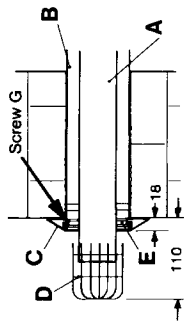

Fig. 17
Separate the two tubes by removing screw G (fig. 17).
Ensure inner and outer terminal tubes are firmly fitted together with screw G (fig. 17). Push the terminal tubes through the wall until the face of the outer tube protrudes 18mm from the face of the wall (fig. 17). The terminal grill (D) will then protrude 110mm from the wall face.
- 5.5.15** Check also that the outer end of the flue projects as indicated in fig. 17.
- 5.5.18** Seal the peripheral gap around the outer tube with cement or mastic and slip the cosmetic flexible plastic collar (fig. 17) item (C) into groove on the pipe. This operation can only be carried out with external access. Seal the internal wall face around the air duct.
NOTE: The two tubes must be separated by removing screw G fig 17 before cutting.